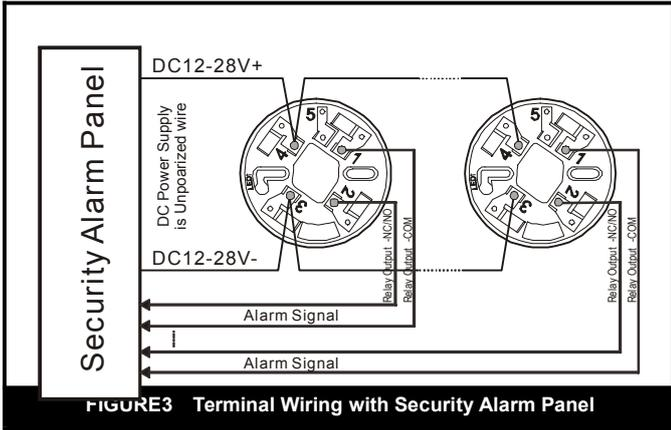

FIGURE3 Terminal Wiring with Security Alarm Panel
When the SW1-4 is set to OFF that mean the detector connected with security alarm panel. When the detector alarms, the detector would output relay contacts. See Figure 3 for wiring.
5. The detector can be connected with Security alarm panel as Figure3. Relay output signal can be changed from Normal Close (NC) to Normal Open (NO) by Jump JP1 on the PCB board.